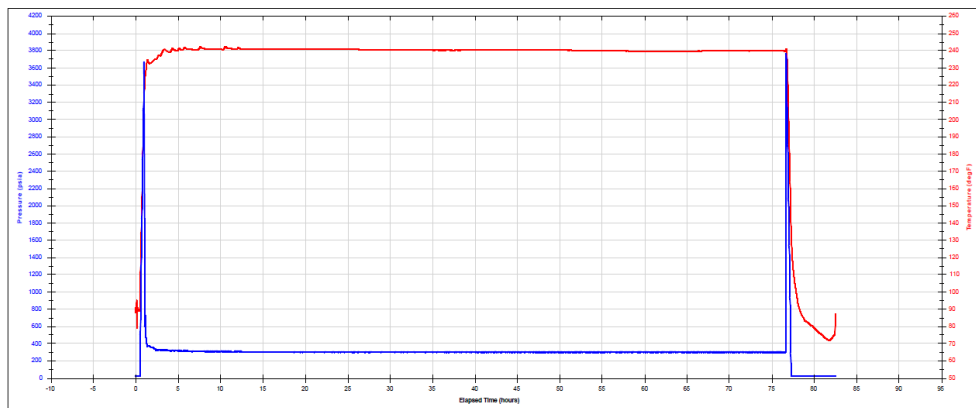

Figure 10: Memory gauge data from a jet pump well in the Eagleford Basin
- The well productivity will be depleted to very low levels by a single artificial lift method, the jet pump. Around the Eagleford basin, numerous wells have started with jet pumps producing rates of around 3,000+ bfpd at pump intake pressure of +/- 3,500 psi; and down the road, depleted to production points of 150 bfpd at pump intake pressure of 300 psi. See figure 10.